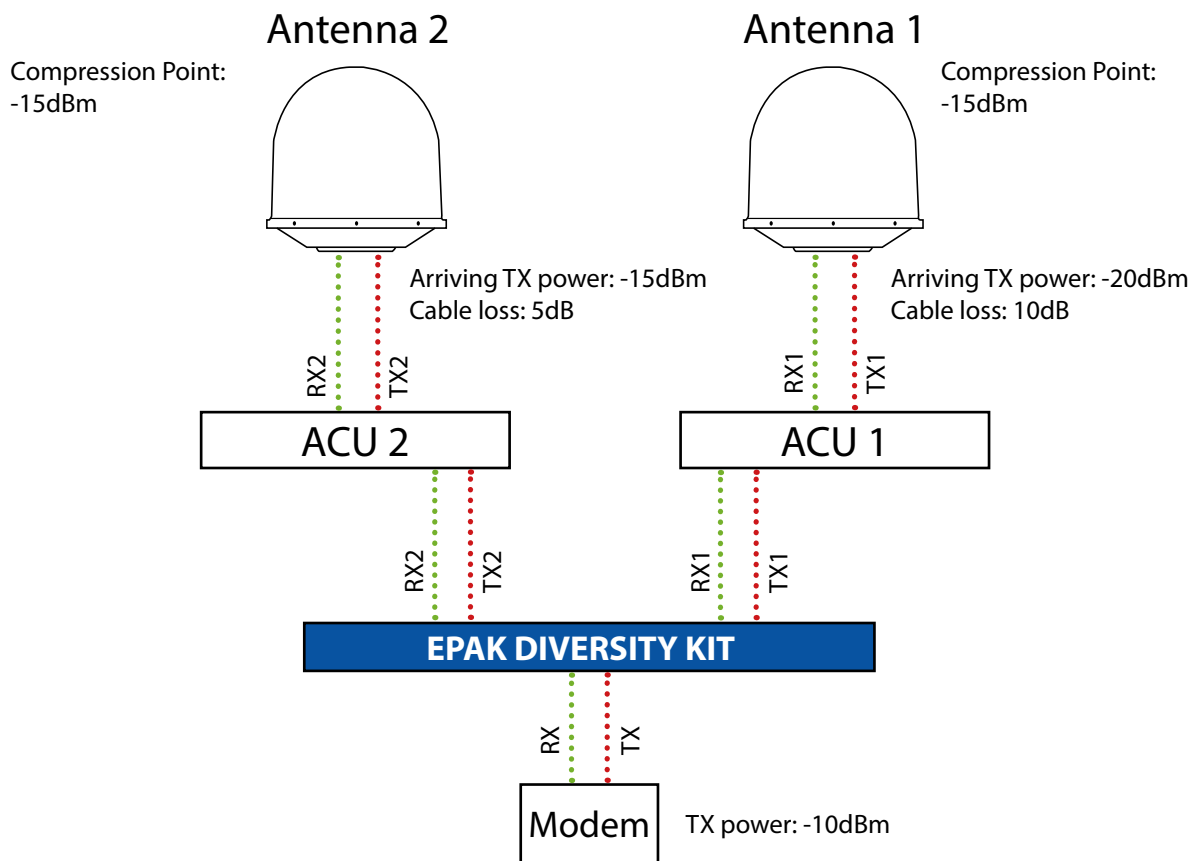

Fig. 5: Example for mismatching power levels of TX at the output of the modem.
**Explanation:** Fig. 5 shows different TX power levels arriving the transceiver.